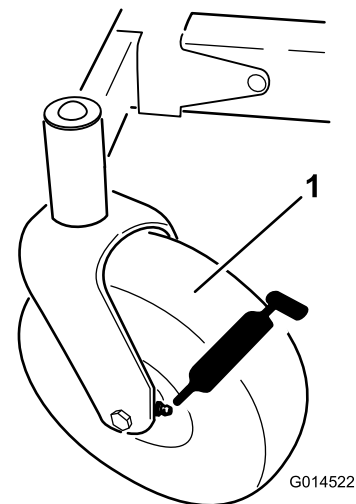
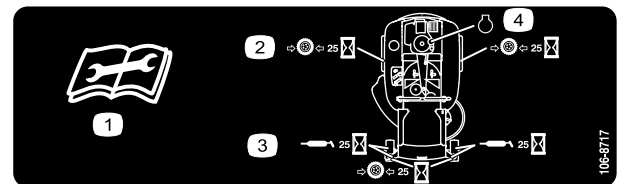

Figure 30
Figure 31
3. Clean the grease fittings (Figure 30 and Figure 31) with a rag. Make sure to scrape any paint off of the front of the fitting(s).
4. Connect a grease gun to each fitting (Figure 30 and Figure 31). Pump grease into the fittings until grease begins to ooze out of the bearings.